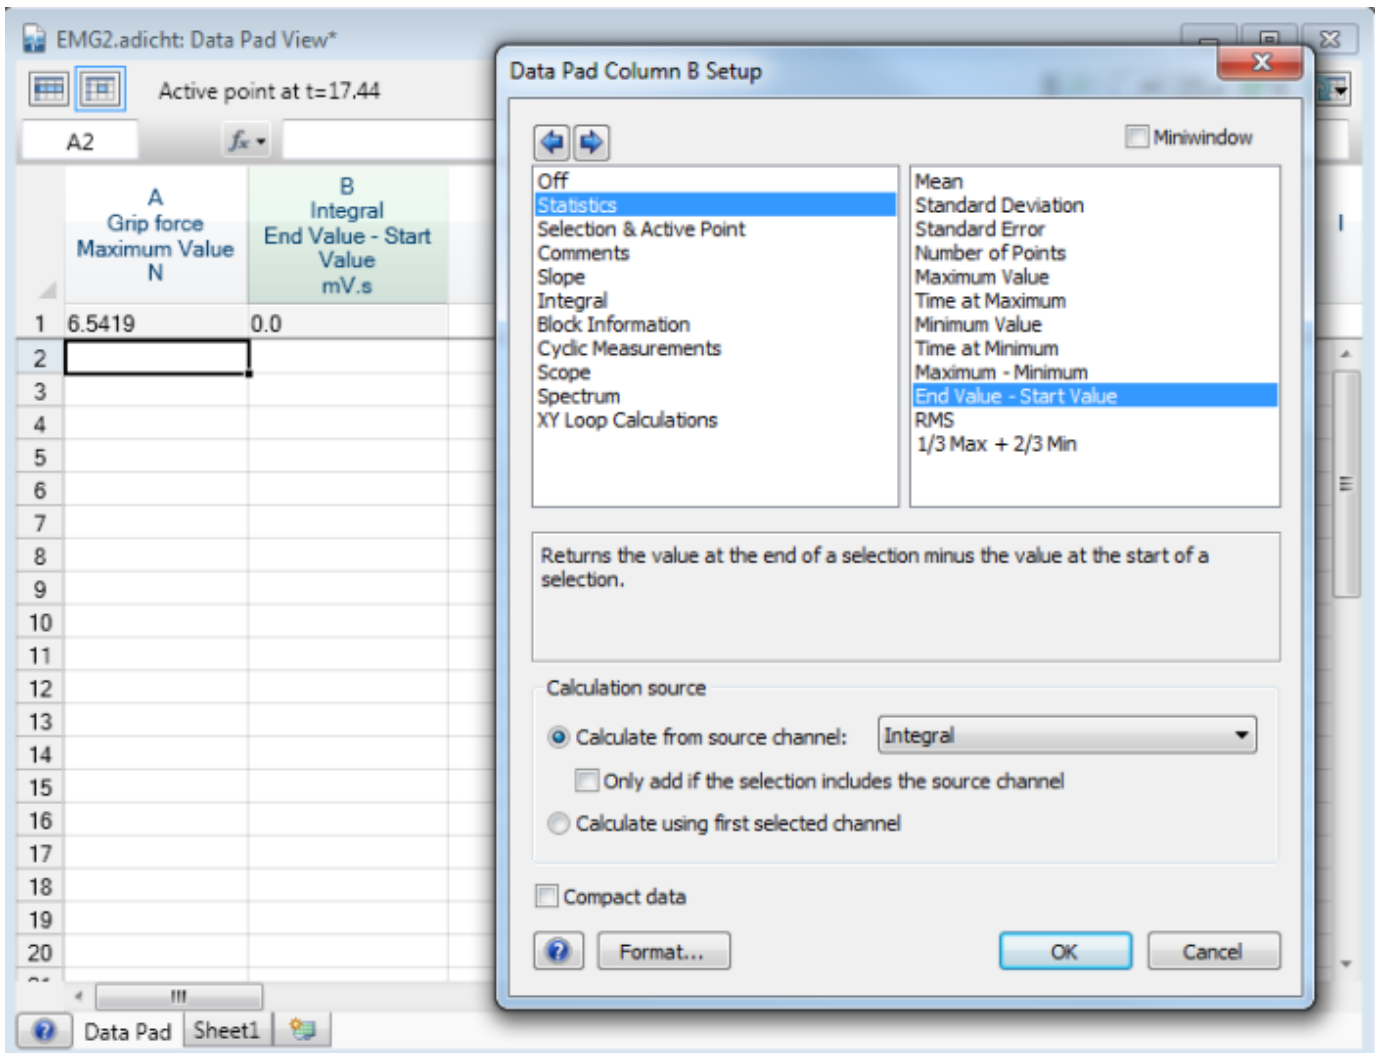

Figure 13: Prepare a DataPad column for the next step - multiple add to DataPad.
4. Open the Data Pad (**Window->Data Pad**). Click on a vacant column, select Statistics then **End Value - Start Value**. For Calculation Source, select the channel calculation that contains the integral (steps 1-2). See figure 13.